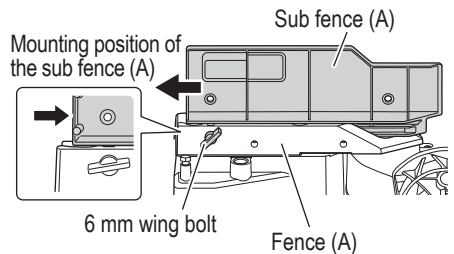

Fig. 11
When right bevel angle cutting, loosen the 6 mm wing bolt, then slide the sub fence (A) outward and remove it as shown in Fig. 11. Failure to do so may result in the main body or saw blade coming into contact with the sub fence (A) and causing injury.
In the case of direct angle cutting and left bevel angle cutting, slide inward to the position where the sub fence (A) hits, and secure it with 6 mm wing bolt. (as shown in Fig. 11)